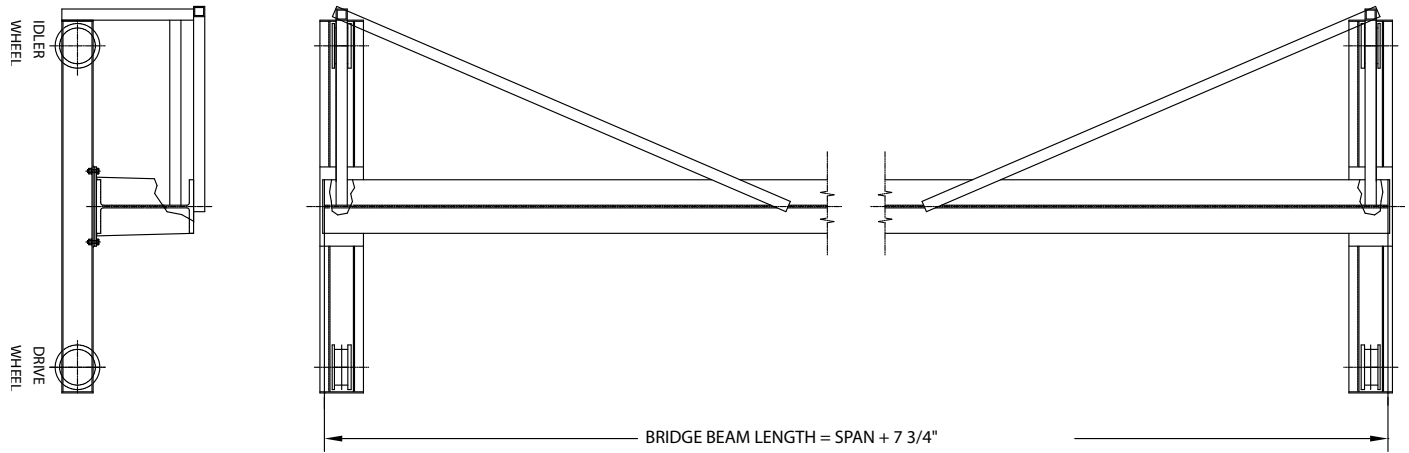

Figure 13a.
9. To provide rigidity to the bridge, four braces (one to each corner and one to girder web parallel to truck) shall be added in the position shown in Figure 13a. On a motor driven crane it may be necessary to move the electrical enclosure for clearance.